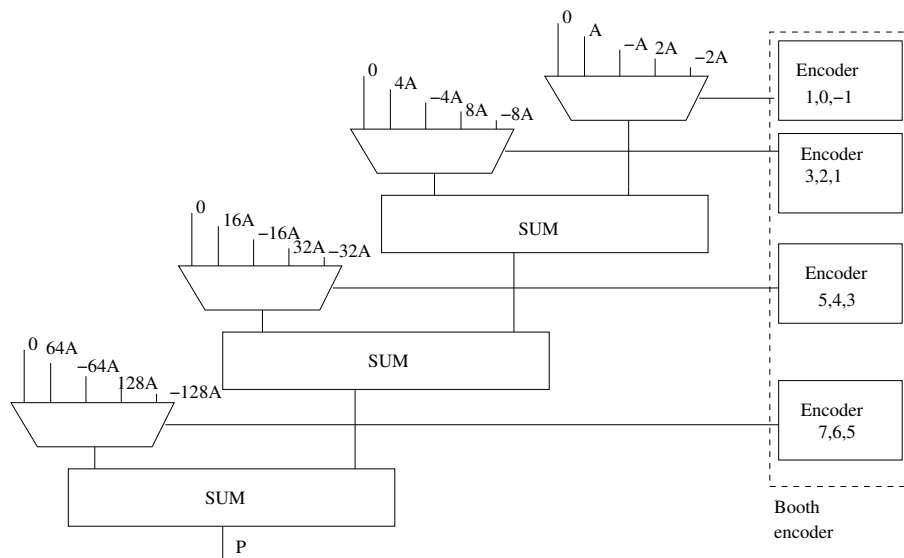

Figure 2.5: Structure of a 32 bit multiplier based on Booth's algorithm
1. Describe a N bit parallel multiplier using a *mixed structural and behavioral* architecture based on Booth's algorithm (see Figure 2.5).